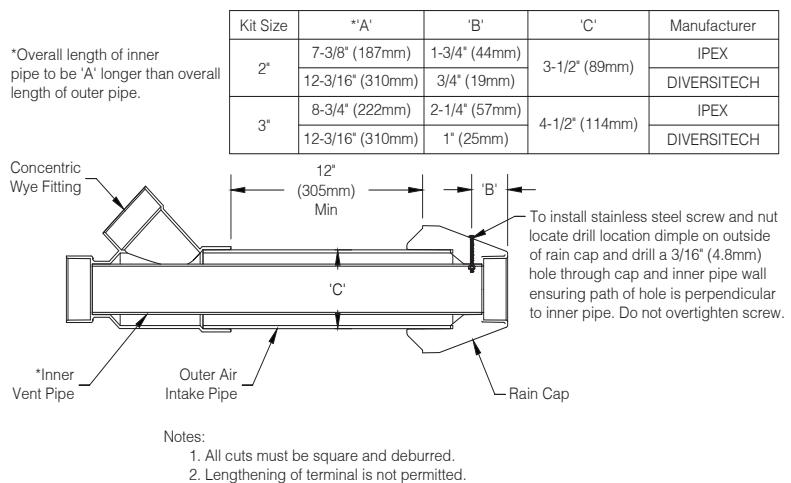

Figure 8-12: CPVC/PVC Concentric Terminal Dimensions
4. If needed, terminal can be shortened. Follow terminal manufacturer's instructions and Figure 8-12.